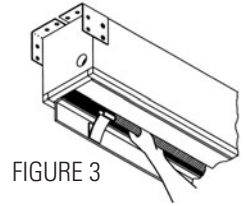

FIGURE 3
9. Lower picture surface approximately 4"-6" so that the slat will rest on top of the slat hooks. Gently lift slat up and ease it under the slat hooks (Fig. 3).